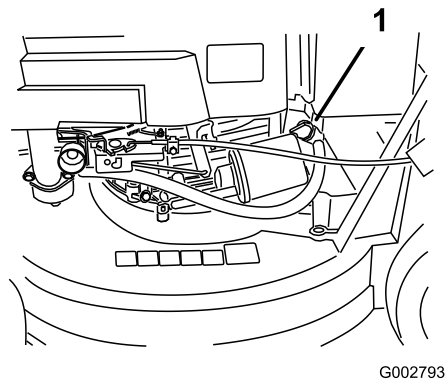

Figure 13
2. Open the fuel valve (Figure 13)